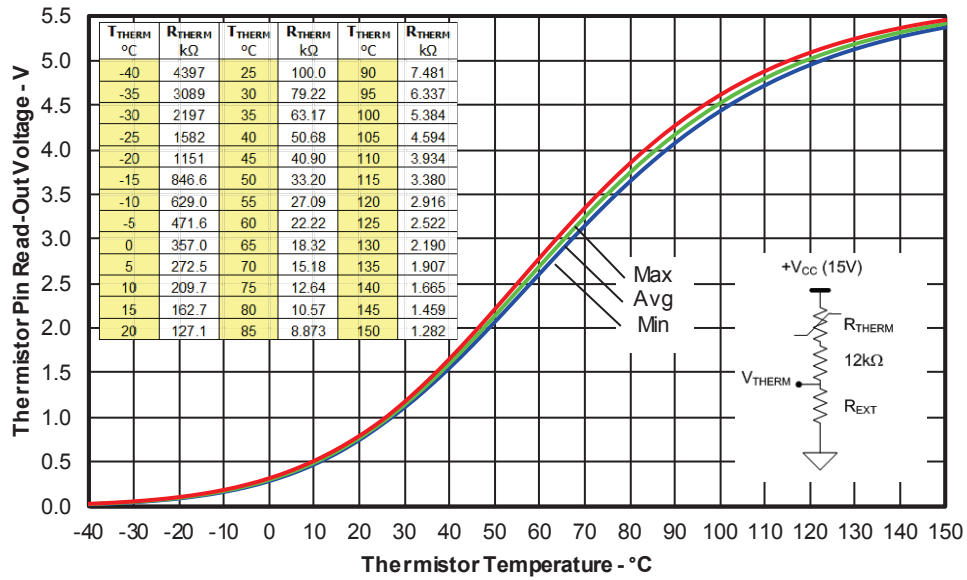

Figure 10. Thermistor Readout vs. Temperature (7.5kohm REXT pull-down resistor) and Normal Thermistor Resistance values vs. Temperature Table.
3. Value of the boot-strap capacitors depends upon the switching frequency. Their selection should be made based on IR design tip DT04-4, application note AN-1044 or Figure 10. Bootstrap capacitor value must be selected to limit the power dissipation of the internal resistor in series with the VCC. (see maximum ratings Table on page 3).